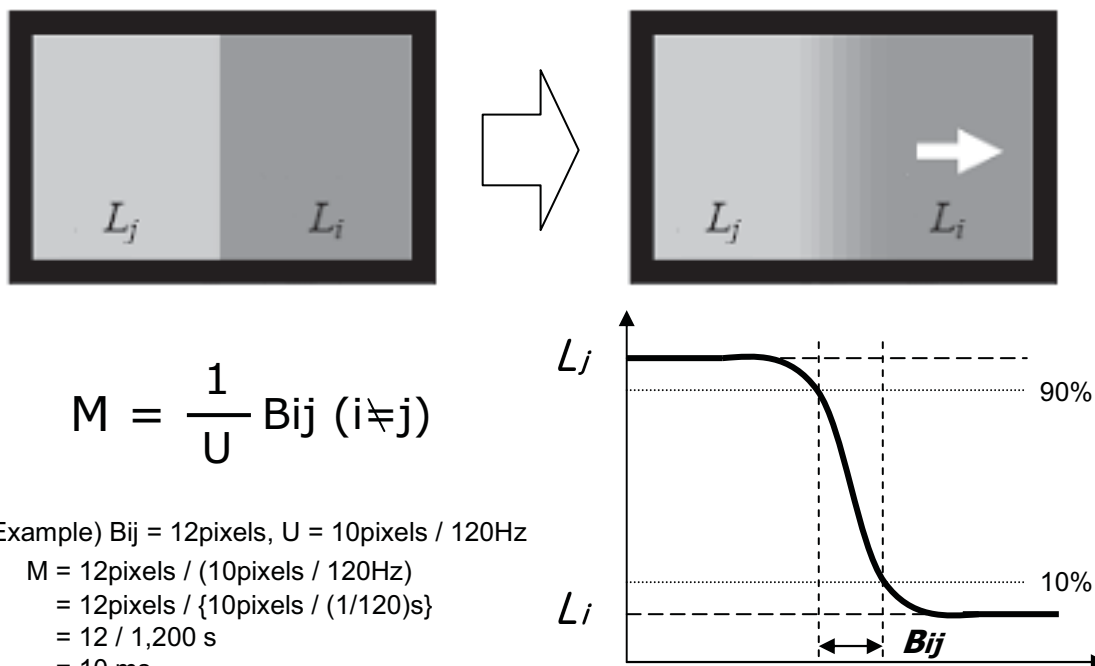

FIG. 11 MPRT
5. MPRT is defined as the 10% to 90% blur-edge width  $Bij$ (pixels) and scroll speed  $U$ (pixels/frame)at the moving picture. For more information, see FIG.11.